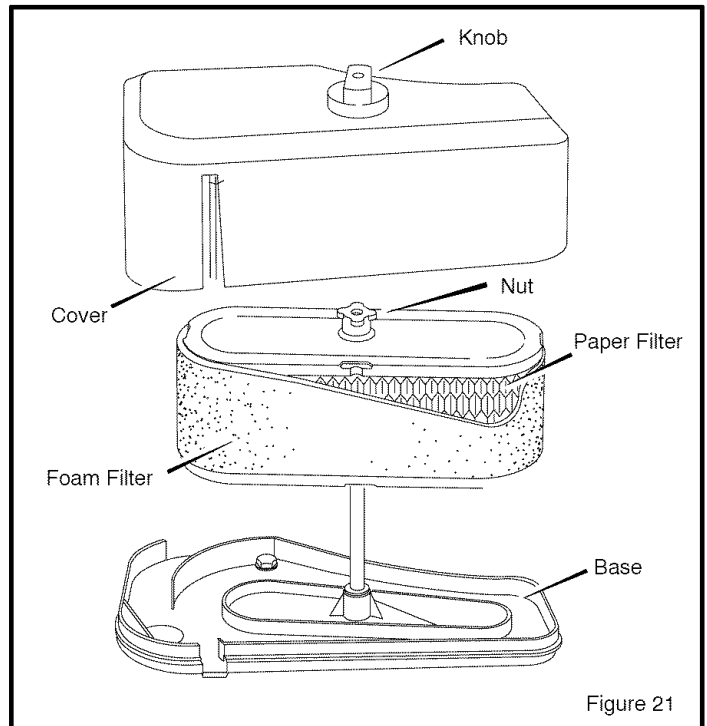

Figure 21
1. Remove the **knob** from the **cover** (Figure 21).